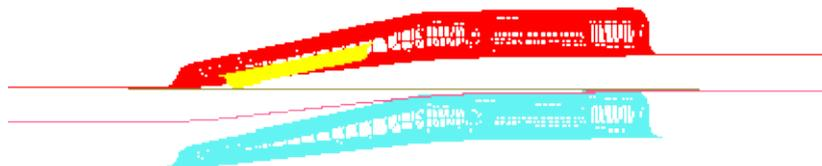

Figure 5.70 The relative position of tools and blank after positioning
- Click  icon on the **Icon bar** to display the relative position of tools and blank, as illustrated in Figure 5.70.